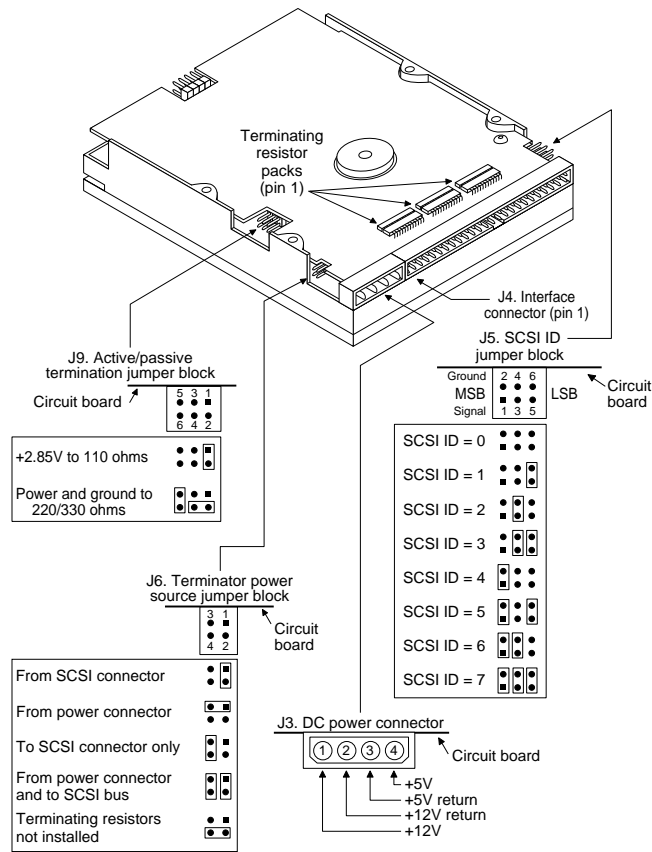
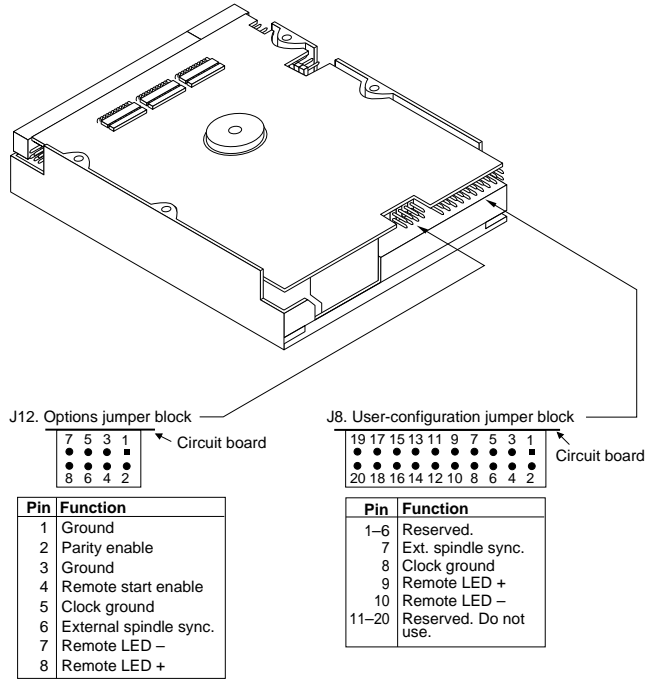

Figure 1. Back view
Figure 2. Front view
Select the appropriate drive features by installing or removing jumpers on the drive circuit board according to the instructions in Figure 1 on page 6 and Figure 2 on page 7. Refer to your host adapter documentation for terminator specifications and configuration instructions.
SCSI ID, install jumpers on the SCSI ID jumper block as shown in Figure 1 on page 6.
- 2. Installing or removing terminating resistors.** SCSI I/O termination consists of three resistor packs, called terminators, that plug into sockets on the printed circuit board. The terminating resistors are shown in Figure 1.
- 3. Installing jumpers on the terminator power source jumper block.** If you removed the terminating resistors in step 2, install a jumper on pins 2 and 4 of the terminator power source jumper block shown in Figure 1.
Refer to Figure 1 on page 6 and Figure 2 on page 7 for the locations of the connectors and jumper blocks.
Verify that pin 1 of the interface cable is matched to pin 1 of the interface connector on the drive and on the host. Pin 1 is usually denoted by a stripe on the side of the ribbon cable. The location of pin 1 of the drive interface connector is shown in Figure 1 on page 6.